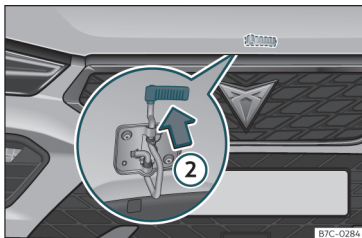

Fig. 200 Cam under the bonnet
- To lift the bonnet, press the release catch under the bonnet upwards»» Fig. 200 ②. The arrester hook under the bonnet is released.